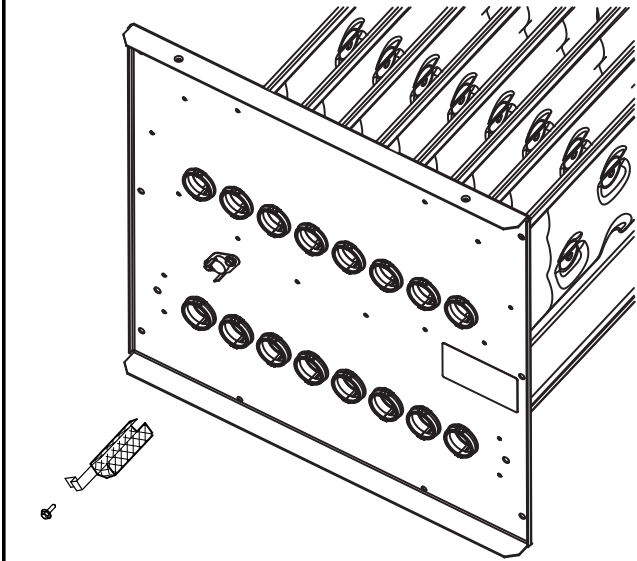

FIGURE 40
- 8 - **NOX units only** - Remove screw securing NOX insert. Remove NOX insert. See figure 40.